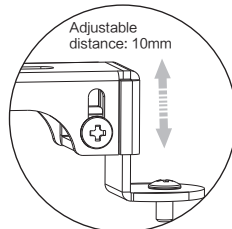

figure 12
4. Rotate the adjustable screw for adjusting the height of installation arms if the installation holes are not at the same level as figure 12.